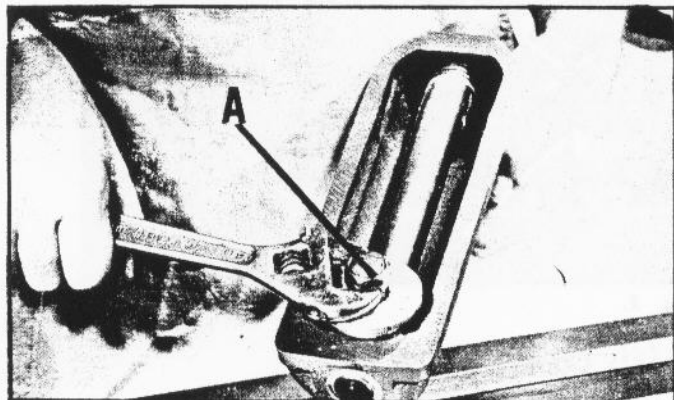

Fig. 6.
The clamping device has been set at the factory, however, should it become necessary to reset, adjust the two hexagon nuts (A) Fig. 6, accordingly.